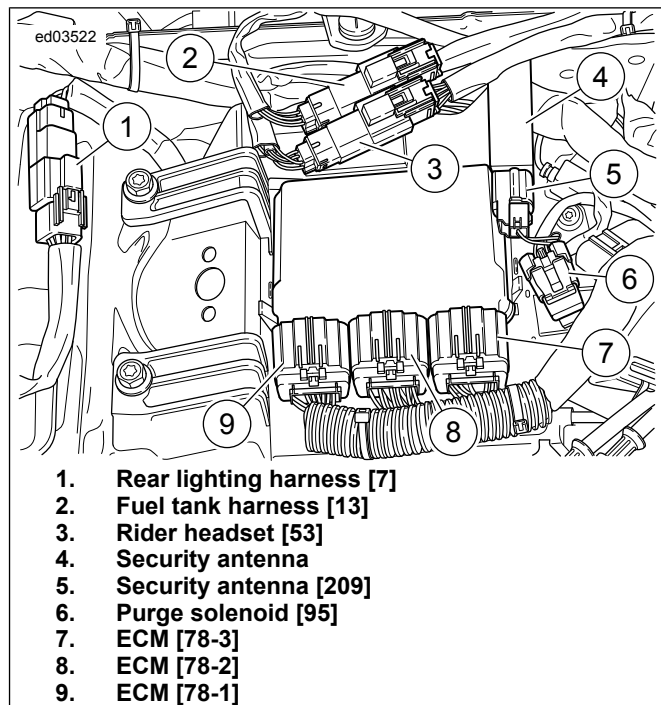

Figure 2. Under Seat: FLHT
4. Obtain the adapter harness (7) from the kit. See Figure 2. Locate the six-way rear lighting harness connector [7] in the area under the seat.